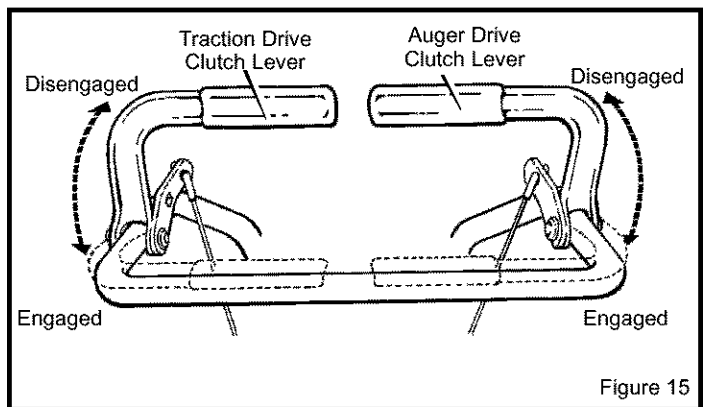

Figure 15
1. Start the engine as described in section "To Start Engine" (see Figure 15).
5. Engage auger drive clutch lever (right hand—Figure 15).
6. Engage traction drive clutch lever (left hand—Figure 15). As the snow blower starts to move, maintain a firm hold on the handles and guide the snow blower along the cutting path. Do not attempt to push the snow blower.
7. To stop forward motion, release traction drive clutch lever (left hand – Figure 15).
8. To stop the auger, release auger drive clutch lever (right hand – Figure 15).